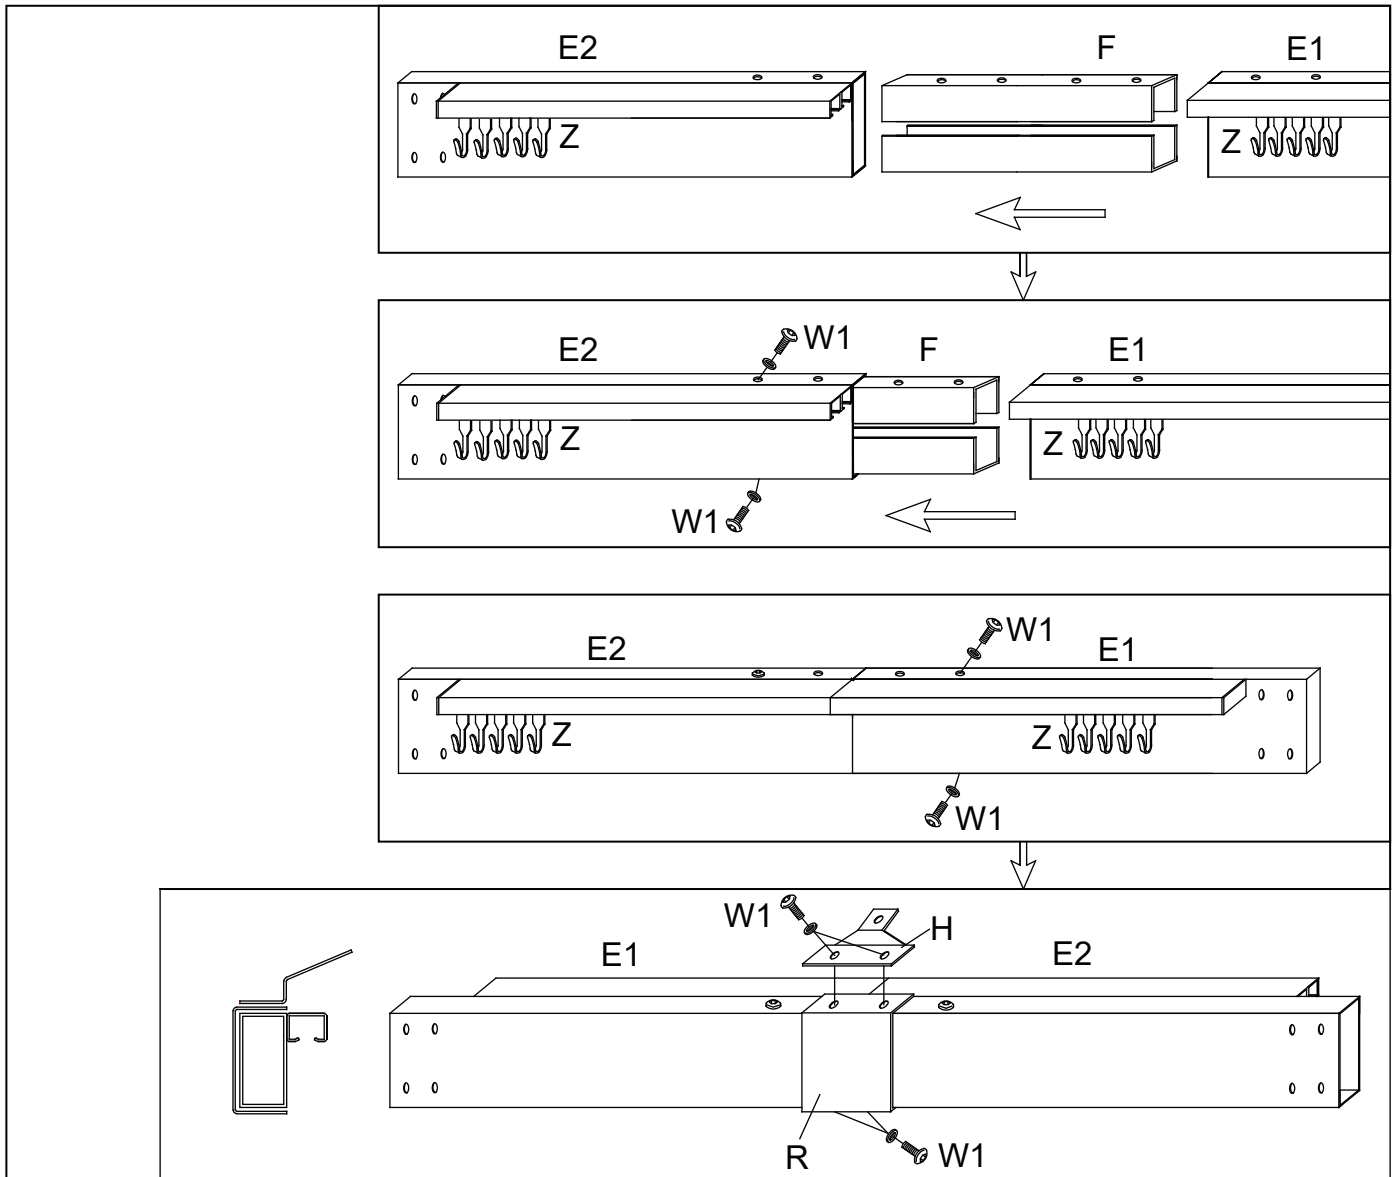

Fig.2
2. Place the Hook (Z) into the track of the Lintel (E1/E2). Insert Connector (F) to the Lintel (E1/E2), make sure the holes are aligned. Attach Left Lintel (E1) and Right Lintel (E2) to Connector (F) with Bolt (W1). At the same time, attach Connection Piece (H) to Lintel (E1/E2) with Bolt (W1). Attach the Lintel Cover (R) to Connector (F) with Bolt (W1). See Fig.2.